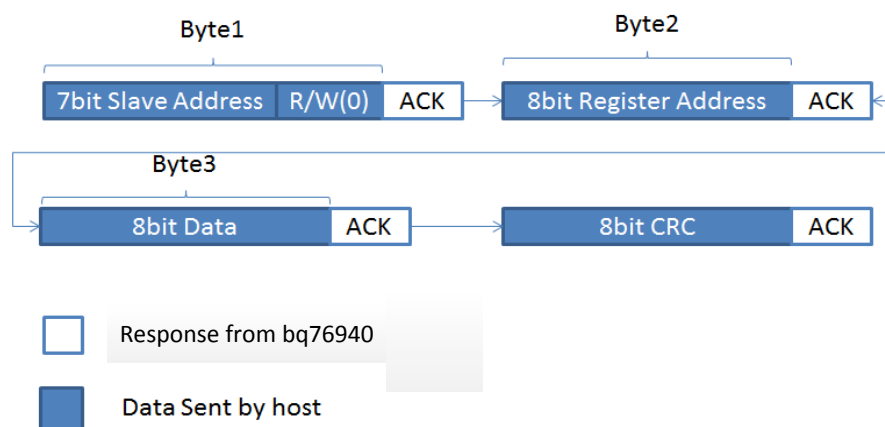

Figure 6. Single Write, Byte Transmission Sequence
The 8-bit CRC value is returned as an unsigned char value by this function, the input parameter ptr, is a pointer to an input string containing the byte(s) that should be involved for CRC calculation. The parameter len is the number of bytes of the string pointed by ptr, the parameter key is derived from the CRC polynomial. This value can be acquired by replacing the X with 2 in the CRC polynomial with first item (the item with highest power index) excluded. For the polynomial used by the bq76940, the key should be 0x7. For a single write operation, the byte transmission sequence is illustrated in Figure 6. In Figure 6, the 8-bit CRC is calculated with the string composed of the data of Byte1, Byte2, and Byte3; note that Byte1 is an 8-bit address with R/W included.
- Changed device name to bq76940 in Figure 6. 4